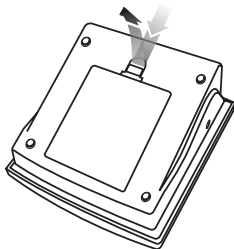

Fig. 2
a) Remove cover as illustrated in Fig. 2